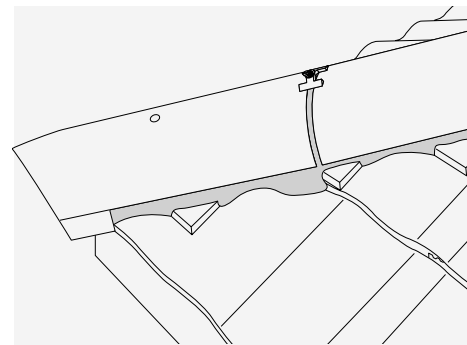

Fig. 58 – Hip end tile with mortar bedded security fixing kit
- 3 Mortar bedded hip tiles must also be mechanically fixed using Marley mortar bedded security hip fixing kits (Fig. 58).